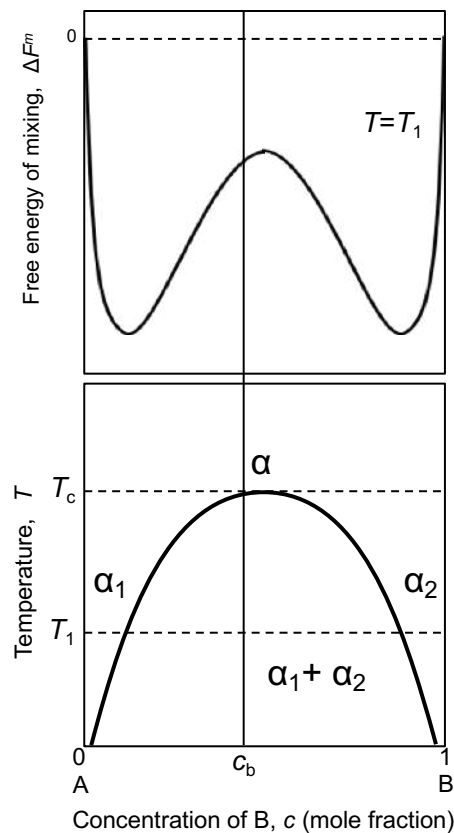

Figure 1
Let us consider phase separation processes of an A-B binary alloy. In Figure 1, the upper graph shows the compositional dependency of a free energy of mixing of the system per 1 mol ( $\Delta F^m$ ) at temperature,  $T=T_1$ , and the bottom graph shows the phase diagram of the A-B binary alloy system.  $\alpha_1$  and  $\alpha_2$  correspond to solid solutions with the same crystal structure but with different compositions. In the present case, the volume change due to mixture is negligibly small. Here,  $c$  is a concentration of B (mole fraction), and  $\Delta F^m$  can be described by equation ①,